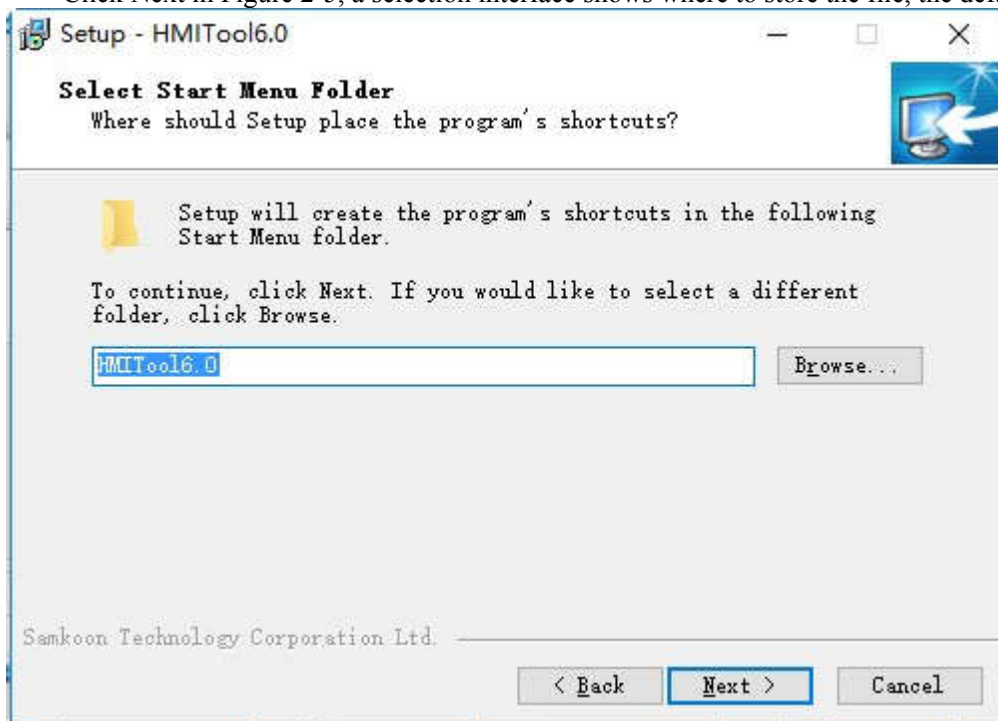

Figure 2-5 Installation File Interface
- Click Next in Figure 2-5, a selection interface shows where to store the file, the default file or others; click Next, as shown in Figure 2-5: